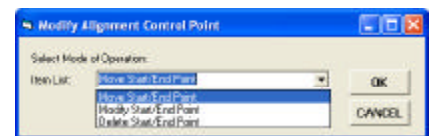

Figure 12
- 3. Select the Move Start/End Point option from the choice list shown in Figure 12, click at the:
3. Select the Modify Start/End Point option from the choice list shown in Figure 12, click at the:
3. Select the Delete Start/End Point option from the choice list shown in Figure 12, click at the: